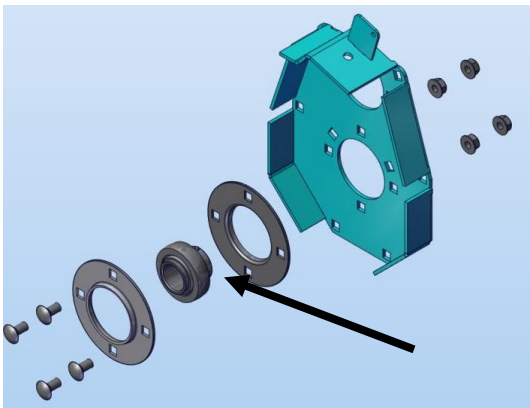

Figure 180
6. Replace the parts as needed. To assemble install the bearings in the RH case assembly. Figure 180